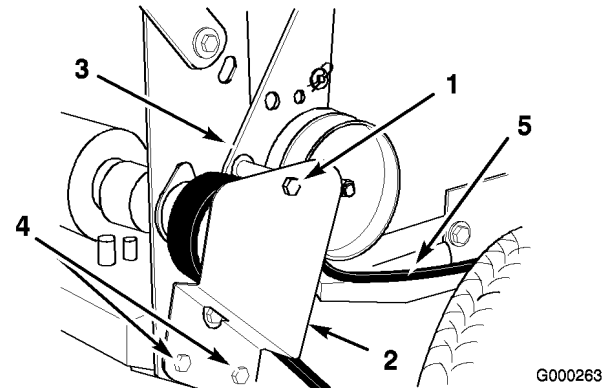

Figure 44
1. Remove the top capscrew securing idler support and idler bracket to rear frame (Figure 44).
2. Loosen bottom two mounting screws enough to allow belt to pass between drive pulley and idler support (Figure 44).
5. Install the top capscrew securing the idler support and idler bracket to the rear frame (Figure 44).
6. Tighten the bottom two mounting screws enough to allow the belt to pass between the drive pulley and idler support (Figure 44).